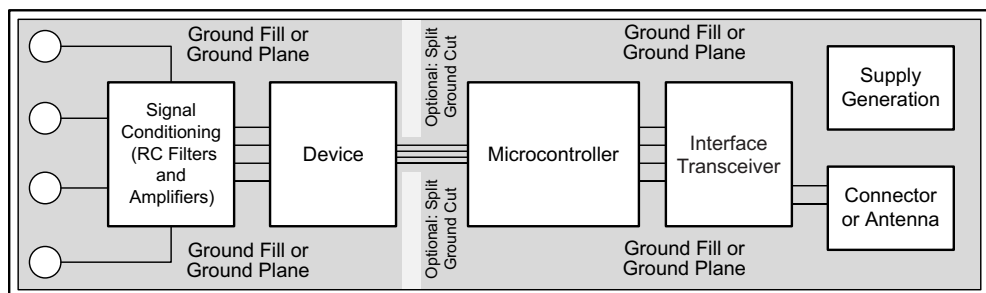

Figure 78. System Component Placement
Use best design practices when laying out a printed-circuit board (PCB) for both analog and digital components. This recommendation generally means that the layout separates analog components [such as ADCs, amplifiers, references, digital-to-analog converters (DACs), and analog multiplexers (MUXs)] from digital components [such as microcontrollers, complex programmable logic devices (CPLDs), field-programmable gate arrays (FPGAs), radio frequency (RF) transceivers, universal serial bus (USB) transceivers, and switching regulators]. An example of good component placement is shown in Figure 78. Although Figure 78 provides a good example of component placement, the best placement for each application is unique to the geometries, components, and PCB fabrication capabilities employed. That is, there is no single layout that is perfect for every design and careful consideration must always be used when designing with any analog component.